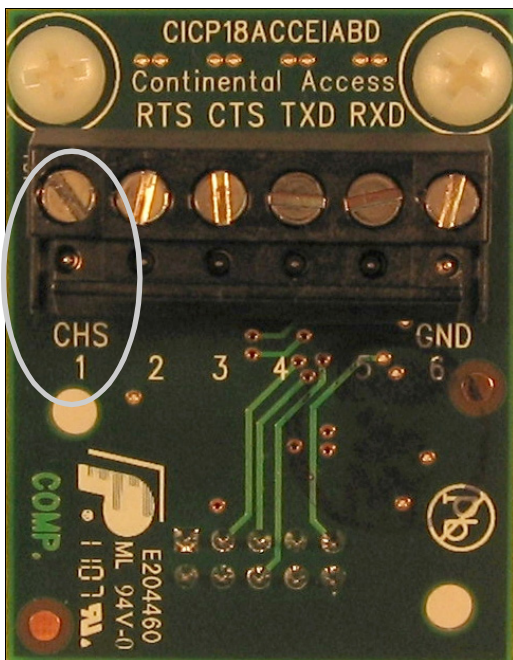

Fig. 6: Chassis ground terminal.
- Connect the other end of the ground wire to the EIA/RS-232 Module terminal strip marked "CHS 1" (circled below in Fig. 6). The letters "CHS" represent the "chassis" connection. **IMPORTANT:** Use care when tightening the terminal screw--support the motherboard with your hand while exerting torque on the screw.
- Make your additional connections to TX, RX and ground, as required. All terminals are clearly marked, as displayed in Fig. 6.